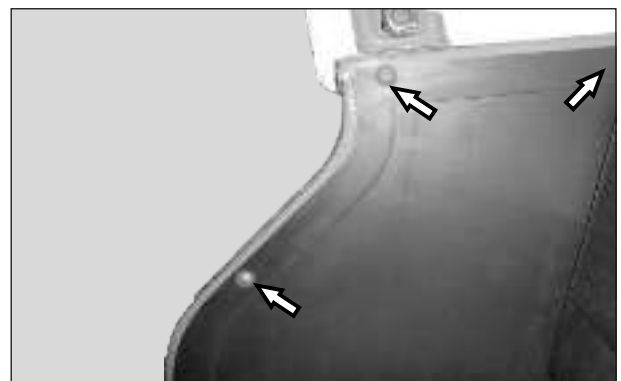

Fig. 5.103
- Loosen and remove 6 nos. CRR pan head screw (M6x16) from side cover passenger seat LH and RH. (Fig. 5.103)